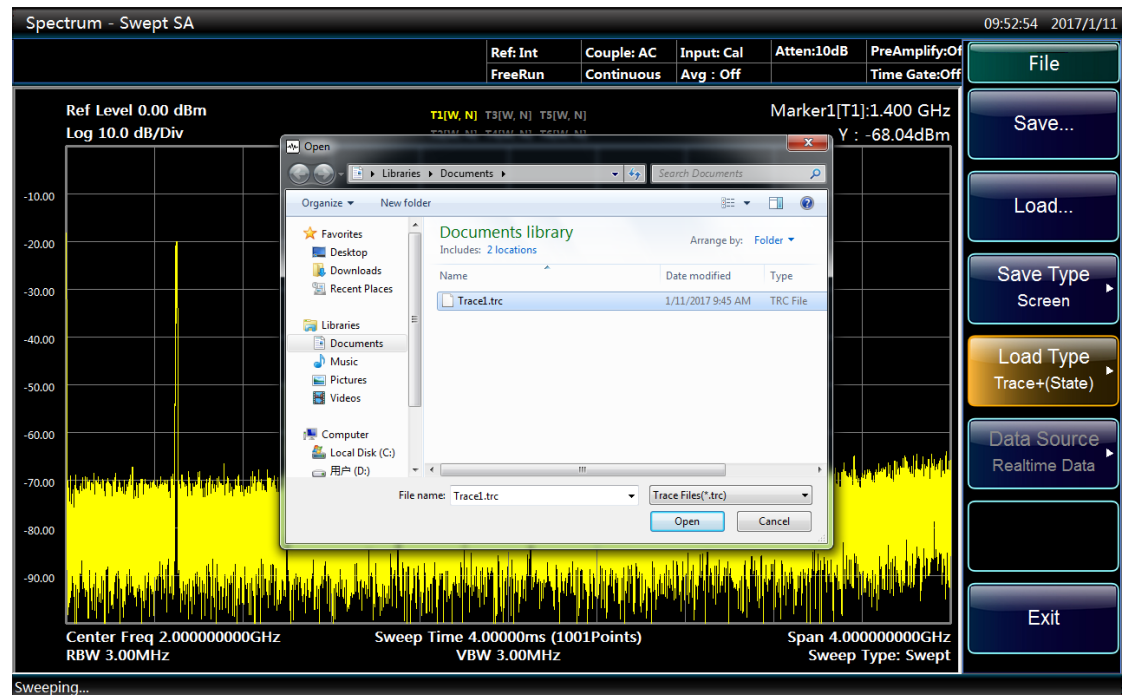

Fig. 3.8 File calling interface
- Press [Calling...] key to pop up Open File dialog, select the file named to be called and click Call as shown in Fig. 3.8.